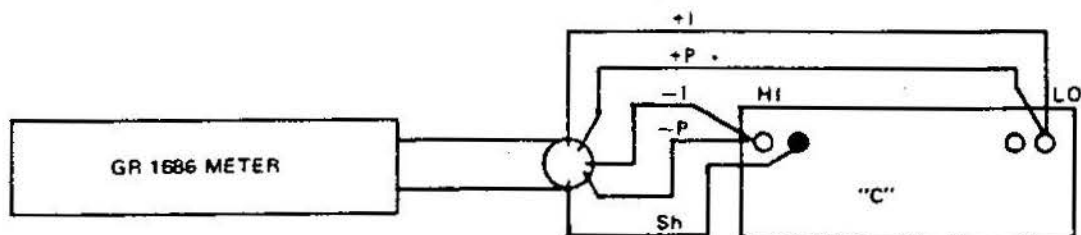

Figure 5-5. Test setup for C-measurement checks and adjustments. The capacitor is usually a precision standard. Use 1686-0291 and 1686-9602 cables (supplied).
d. *Remainder Adjustment.* Connect the 1686 as shown in Fig. 5-5. Set the "C" value to 0.1 μ F and the 1686 to RANGE 6. Adjust W-R107 for a 1686 reading of 0.100; center the adjustment. (The W Board is directly behind the FREQUENCY switch.)
f. *AC Denominator Adjustment.* Connect the 1686 as shown in Figure 5-5, with a decade capacitor for "C". Set the 1686 RANGE switch to 4 and the FREQUENCY switch to 1 kHz.
j. Reconnect the 1686, as shown in Figure 5-5. Connect a 0.1- μ F capacitance standard, for "C", using the GR 1409-T. Set the 1686 RANGE switch to 4 and FREQUENCY switch to 1 kHz.
d. Connect the 100-nF standard capacitor, as shown in Figure 5-5, without any resistor. Observe display and adjust W-R106 if necessary so that the 1686 indicates 100.00 nF. Set R106 in the center of the range over which this display is seen.
a. Connect a 1413 Decade Capacitor to the 1686 (as shown in Figure 5-5). Set the RANGE switch to 3, FREQUENCY to 1 kHz, MODE to REPETITIVE 0.5 s, DISSIPATION FACTOR dial to 0.1, and LIMIT/OFF switch to LIMIT.